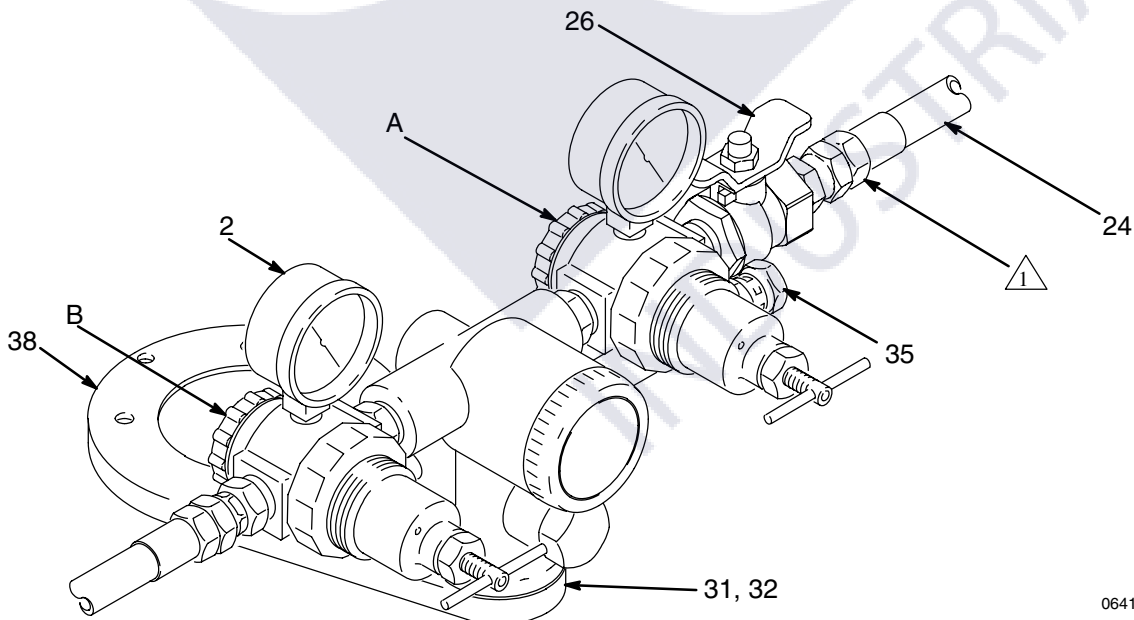

Fig. 1
Note: Numbers and letters in parenthesis in the text refer to callouts in Fig. 1 and the parts drawing.
1. Mount the Evenflo® Control. (See Fig. 1.)
- a. To mount the Evenflo® Control to the pump, use screws (28) to attach the mounting plate (38) to the pump base. Remove the screw (31) and lockwasher (32) from the control (1), and position the control over the small hole of the plate. Secure the control to the plate with the screw and lockwasher.
- b. To mount the Evenflo® Control directly to a covered drum, remove the screw (31) and lockwasher (32) from the control (1), and mount it directly to the cover
2. Connect the ball valve (26) and the air supply hose (24) to the right hand regulator (A). Connect the other end of the hose to the pump's air inlet.
3. Connect an air supply hose to the 1/2 npt(f) air inlet fitting (35).
4. Connect an air atomizing hose (C) between the 3/8 npt(f) swivel union of the left hand regulator (B) and your spray gun.
1. With the air supplied to the pump and the spray gun, and the pump relax-a-valve set in the automatic position, open the by-pass valve (2) four full turns from the closed position. See Fig. 1.